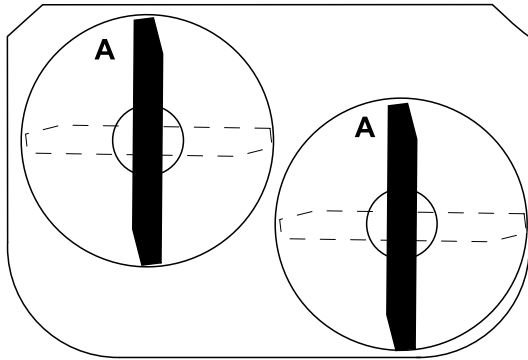

Figure 51
1. Rotate the blades until the ends face forward and backward (Figure 51).